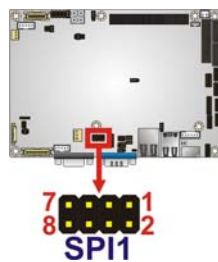

Figure 3-23: SPI Flash Connector
- CN Location:** See Figure 3-23